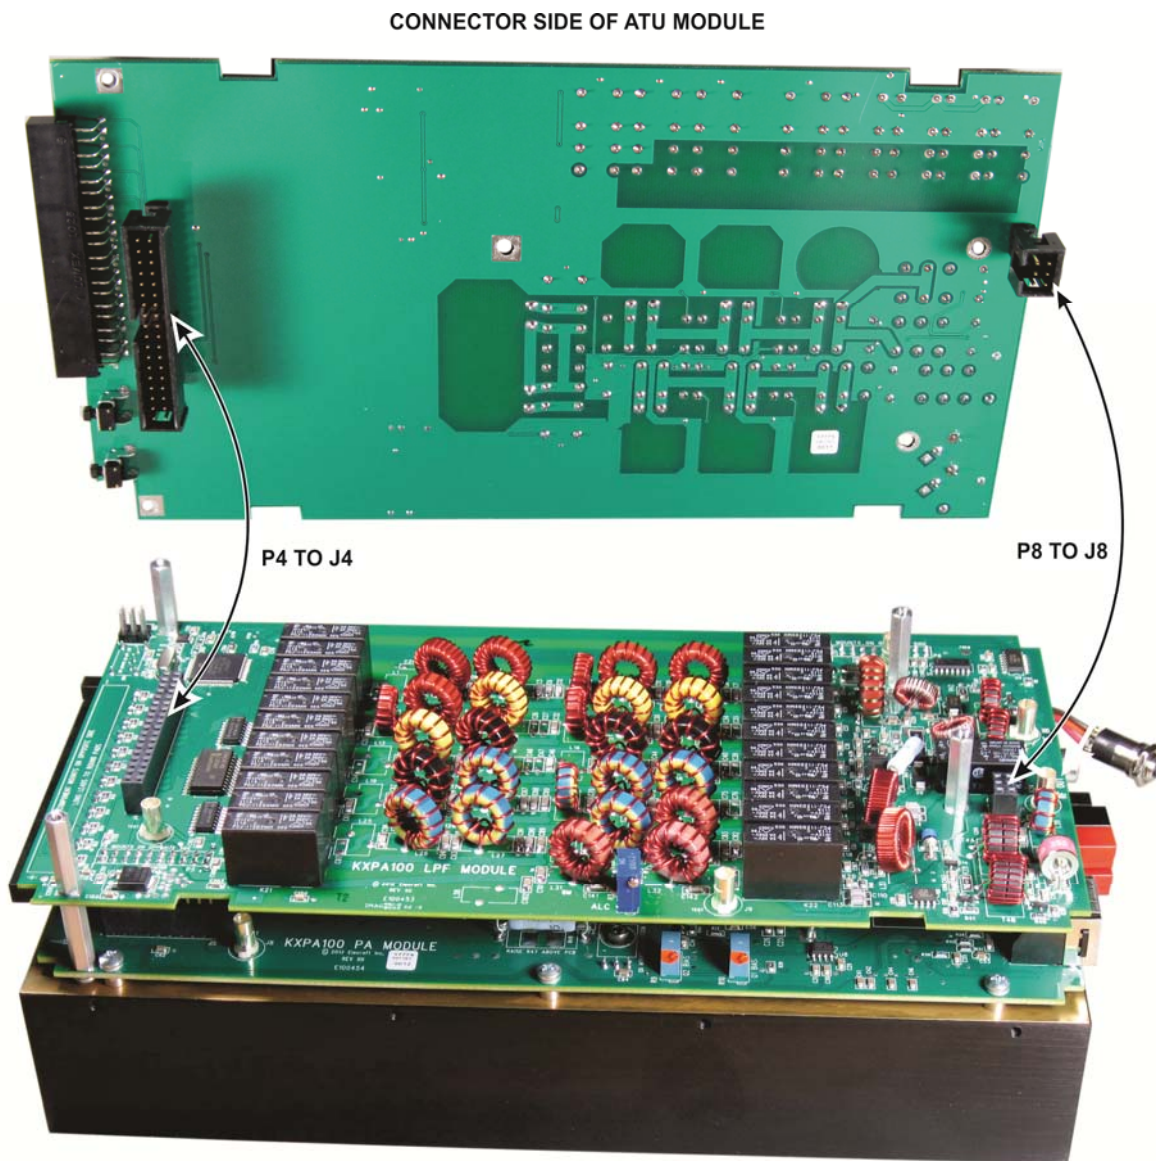

Figure 7. Mating the ATU Module with the LPF Module.
□ Taking ESD precautions, remove the ATU module pc board from its packaging. Place it on the standoffs you just installed so that the two plugs ATU module mate with their corresponding sockets on the LPF module as shown in Figure 7. Be sure that both connectors are properly aligned so all of their pins engage.